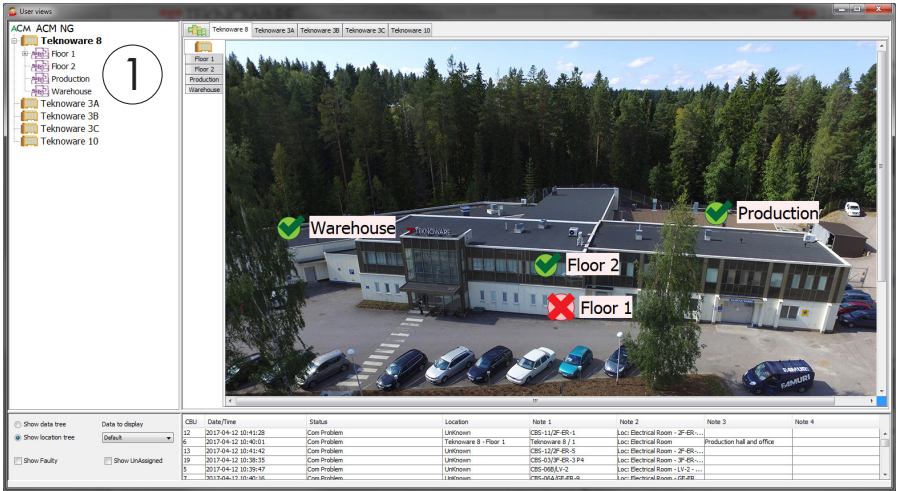

Figure 10. USER VIEWS – Setting up categories – Areas
4. Now, choose a Building (by clicking the Building icon on the image or from the tabs above the image). In Figure 10, building “Teknoware 8” is selected. Then, from the leftside data tree (No. 1 in Figure 10), right click the Area you wish to add to the Building Image, and select Add to map. Then left click the image on the spot, you wish to add the Area to. In Figure 10 above, building “Teknoware 8” is divided into four Areas, which are set on the Building Image according to their physical location.